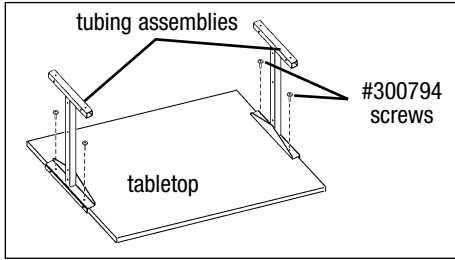

Figure 1
- Align tabletop holes from which original screws were just removed with tubing assembly holes. Using #300794 screws supplied, secure tubing assemblies to the tabletop as shown in *Figure 1*.